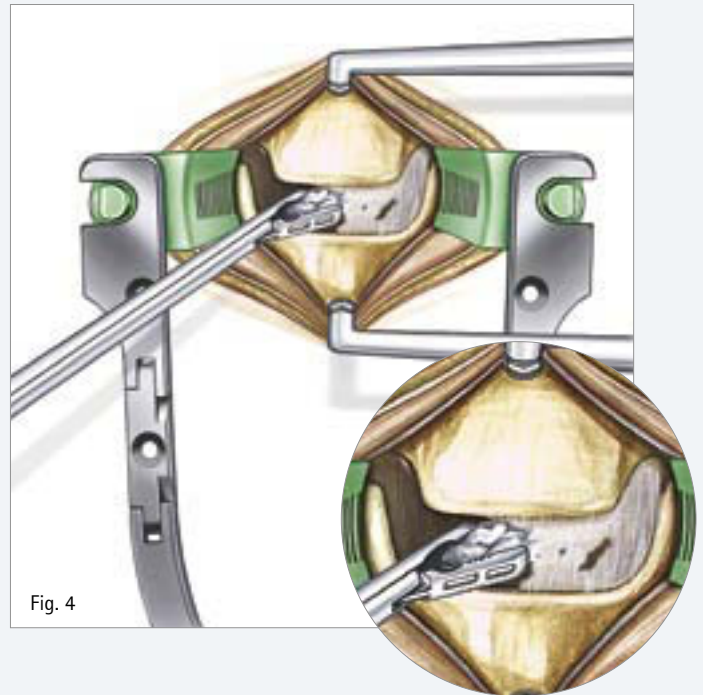

Fig. 4
- Complete discectomy is performed using various rongeurs, box curettes and bone curettes (Fig. 4). While using a high speed drill to remove dorsal osteophytes, care must be taken to avoid damaging the vertebral body endplates.